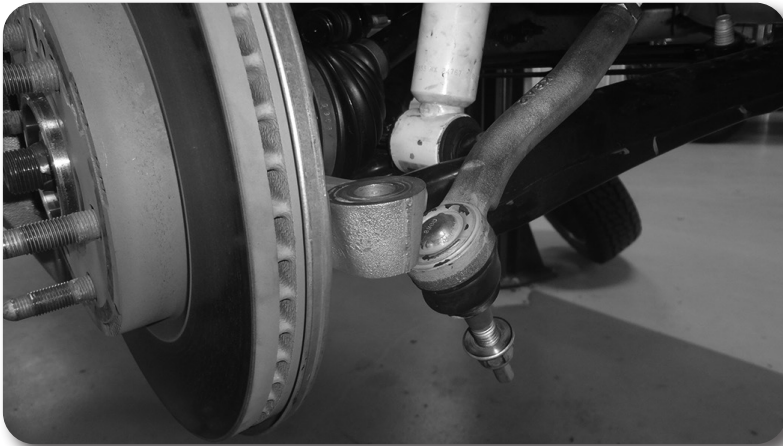

Figure 4
7. Remove the tie rod end nut. Disconnect the tie rod from the knuckle **Fig. 4**.